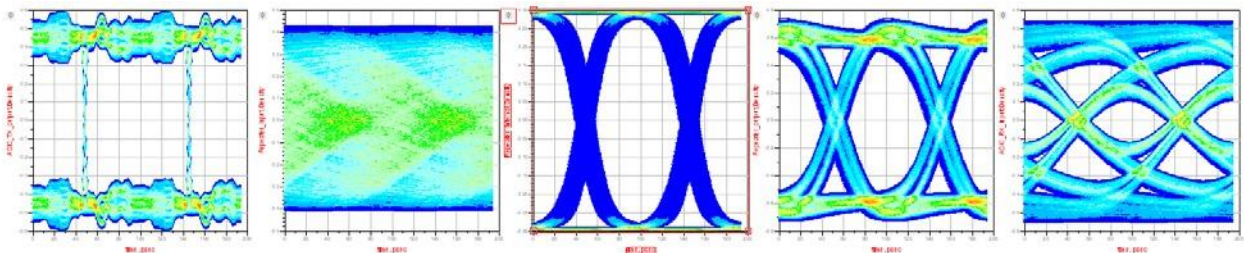
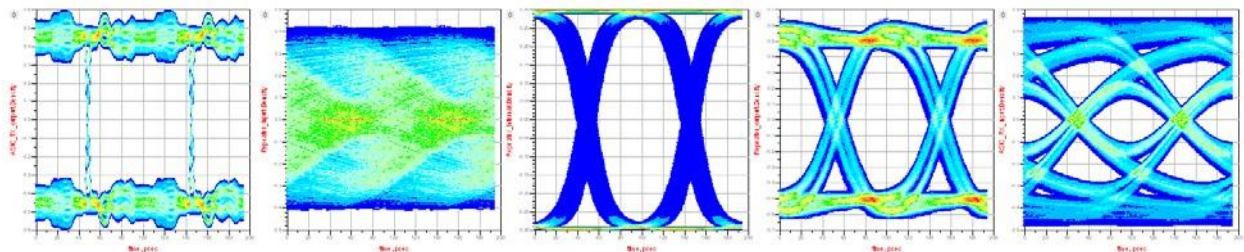

Figure 8: ASIC TX amplitude \approx 1000mVppd, Limit=1, EQ_Level=5, VOD=7, DE_Level=0
Figure 9: ASIC TX amplitude \approx 1000mVppd, Limit=1, EQ_Level=5, VOD=5, DE_Level=0
- Figure 8 and Figure 9 demonstrate that in limiting mode (Limit=1), the output amplitude is a function of the VOD setting. Limiting mode can be used when link training is not required.